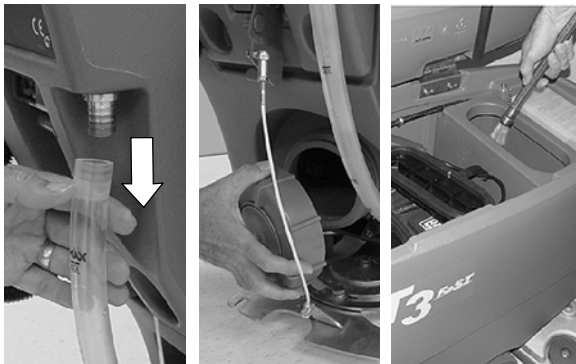

FIG. 45
- Drain the solution tank and rinse out the inside with hot water, 60°C (140°F) maximum temperature, as needed (Figure 45)